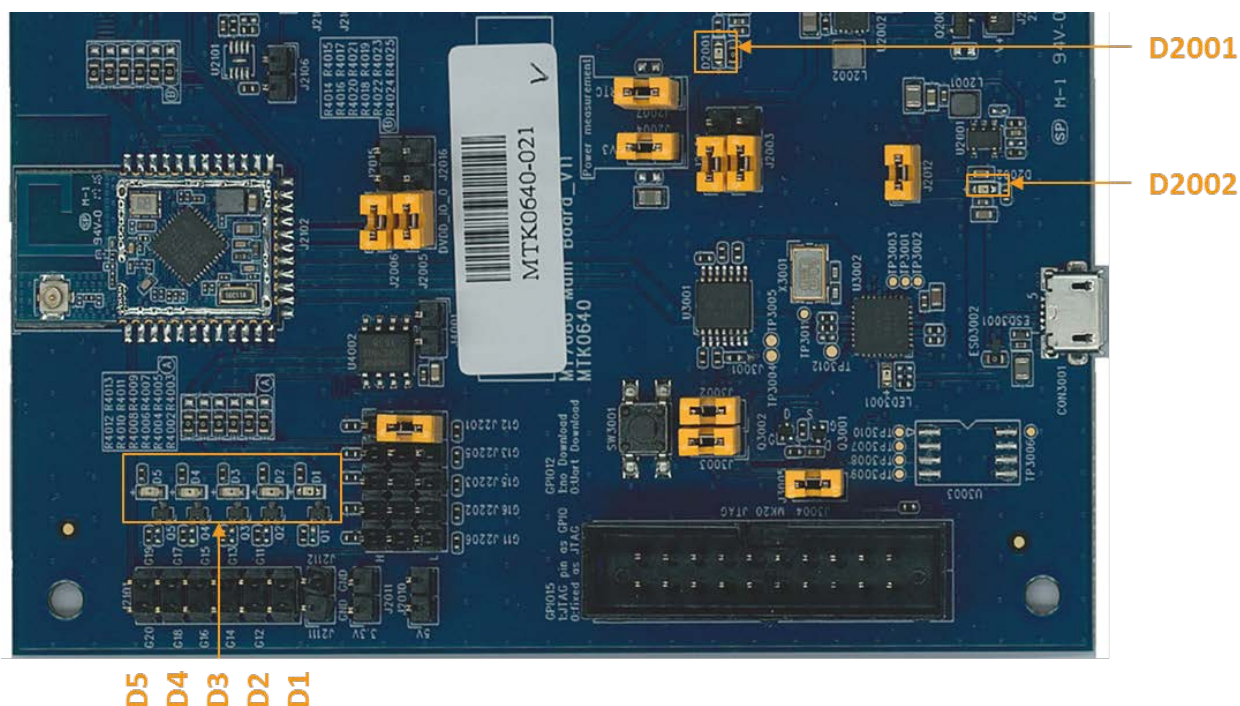

Figure 6. On-board LEDs
The MT7682 HDK has onboard LEDs associated with different functionalities of the board (Figure 6).
3) **D1, D2, D3, D4, and D5** are LEDs assigned for user interaction. All LEDs are high active (Figure 6). GPIO pins to activate the LEDs are shown in Table 3.